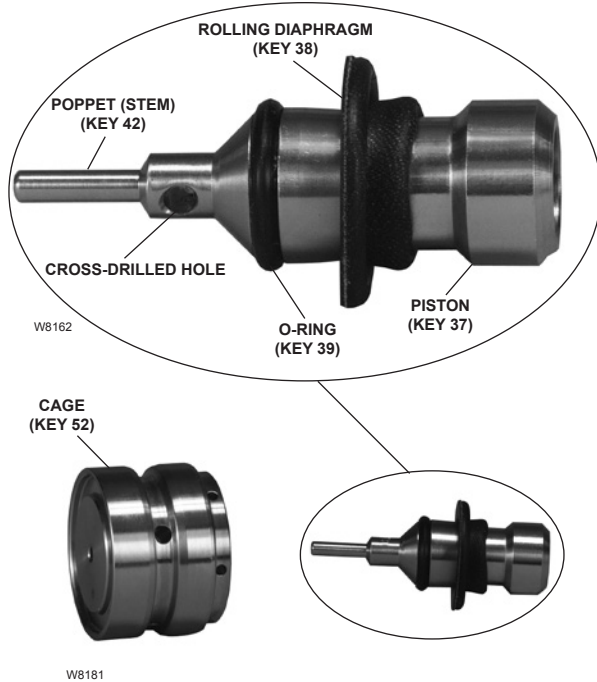

Figure 8. NPS 1/2 / DN 15 Pad Valve Cage Assembly
Refer to Figures 8 and 13.
1. Remove the cage (key 52) from the body (key 18) by slowly applying shop air (approximately 20 psig / 1,4 bar) at the inlet of the body. Use your hand to safely catch the cage as it is removed from the body. See Figure 8.
2. Remove the pilot valve from the cage (key 52) by pressing on the poppet (key 42) stem.
1. Place the rolling diaphragm (key 38) over the threaded portion of the piston (key 37). Use caution not to place the rolling diaphragm upside down (refer to Figure 8). Apply Loctite® #222 to the piston threads. Thread the poppet (key 42) onto the piston. Use soft-jaws to hold the piston. Insert a small drill bit into the cross-drilled holes on the poppet to turn and tighten.
2. Install the O-ring (key 39) onto the poppet (key 42).
3. Lightly lubricate the piston (key 37).
4. Place the sub-assembly into the cage (key 52).